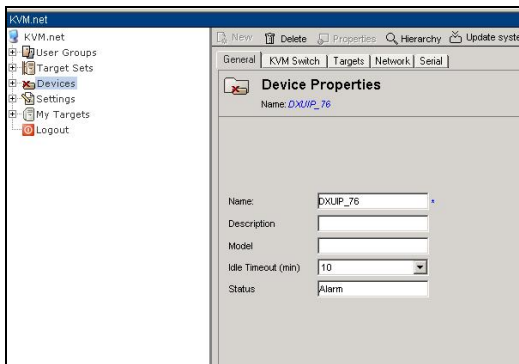

Figure 30 Device Properties General tab
- Double-click the DXUIP IP II device. The Device Properties General tab appears, see Figure 30.